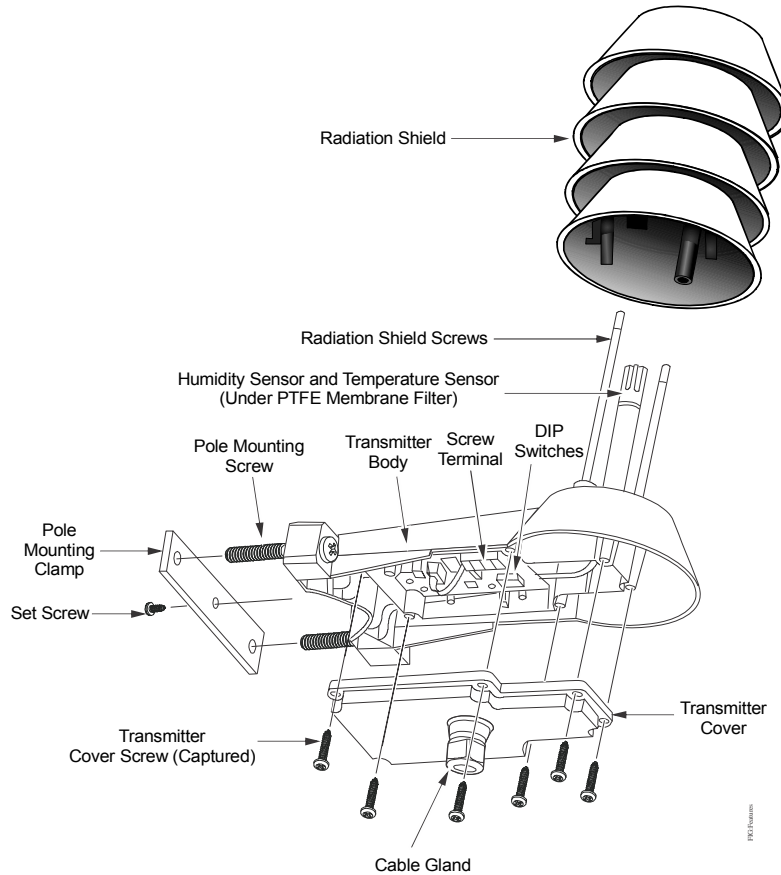

Figure 1: Hx-68P3 Series Outside Humidity and Temperature Transmitter Features
2. Unscrew the cable gland from the transmitter cover. See Figure 1 for the location of the cable gland.